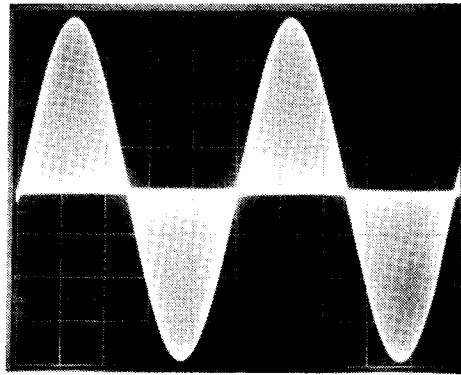

Fig. 4-1: Scope Pattern for Separation Test
- G Set the oscillator frequency to 1kHz, and adjust the oscillator output level and the scope sweep rate to produce a scope pattern that looks like Fig. 4-1 below.